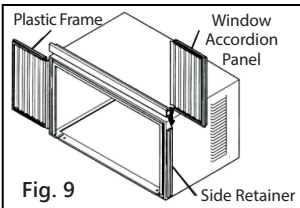

Fig. 9
- D. Slide 1 section of window accordion panel into side retainer on the side of the cabinet (see Fig. 9 & Fig. 10). Do both sides.